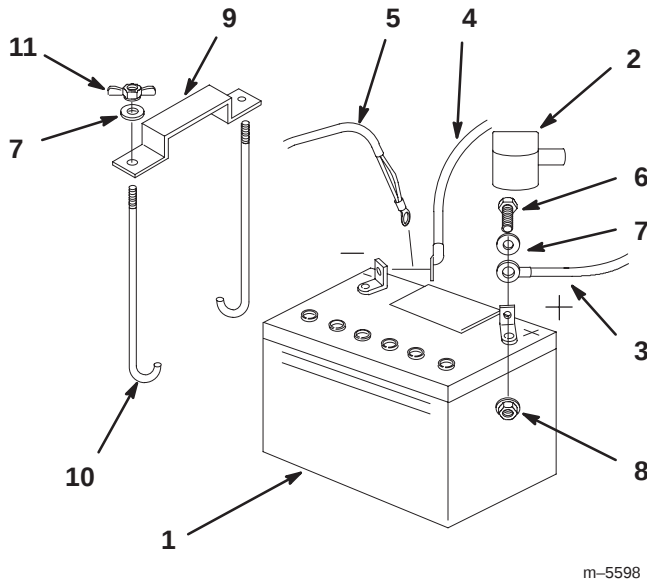

Figure 59
1. Position battery in tray with terminal posts toward the engine (Fig. 59).
4. Secure cables with 2 bolts (1/4 x 3/4 inch), 2 washers (1/4 inch), and 2 locknuts (1/4 inch) (Fig. 59).
6. Secure battery with J-bolts, hold down clamp and 2 washers (1/4 inch), and 2 wing nuts (1/4 inch) (Fig. 59).
3. First disconnect the negative battery cable and ground wire from the negative (–) battery terminal (Fig. 59).
4. Slide the red terminal boot off the positive (red) battery terminal. Then remove positive (red) battery cable (Fig. 59).
5. Remove both wing nuts (1/4 inch) securing the battery clamp (Fig. 59).